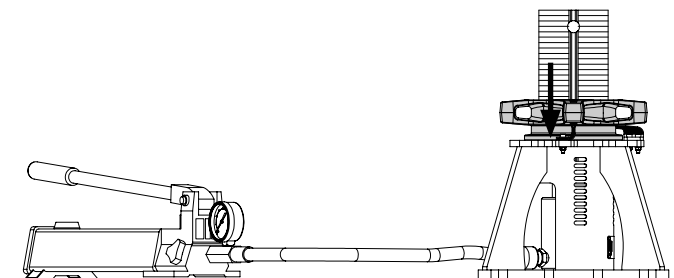

Fig. A5.08
6. Repeat procedure until the predetermined force is shown on the pressure gauge; see static and pre-tensioning plan. (Fig. A5.08)